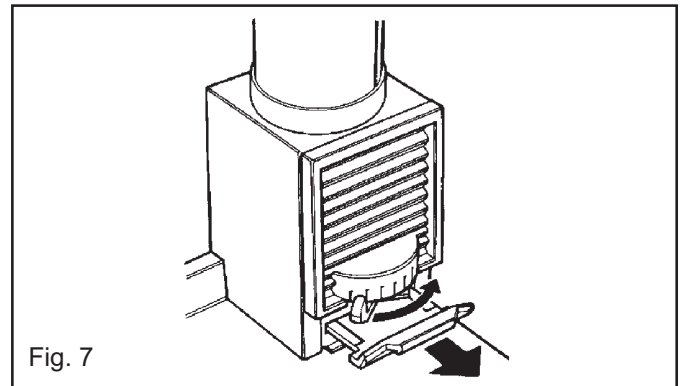

Fig. 7
- Open flue chamber damper to maximum and close flue chamber door (Fig. 7).
- Open flue chamber door to maximum and close flue chamber door (Fig. 7).